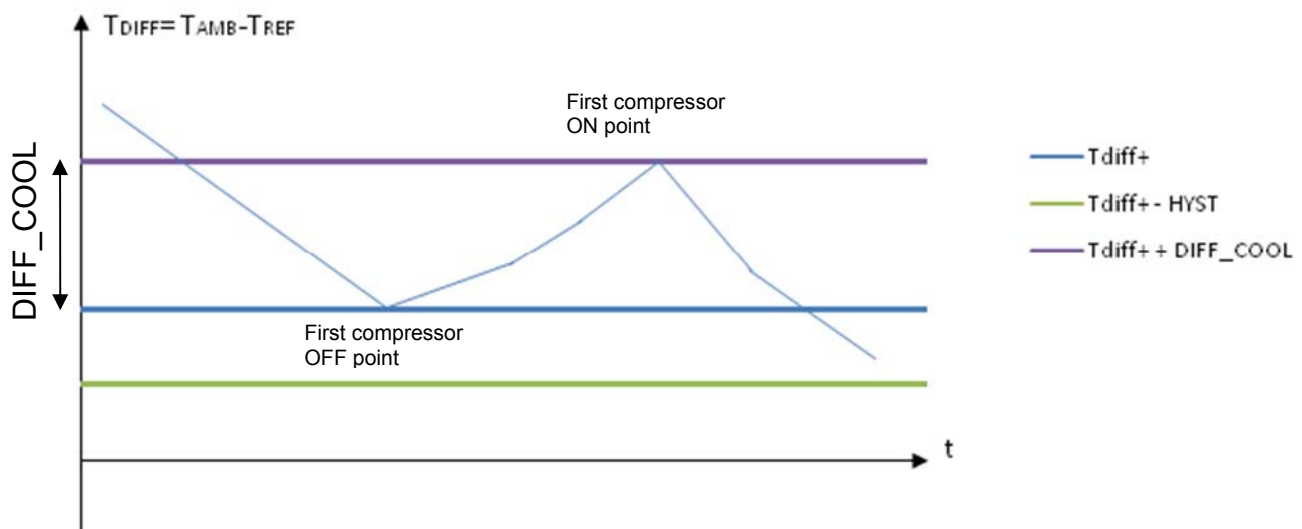

Fig. 12 First compressor regulation
- DIFF_COOL: wideness of the temperature difference band (straddling T_{DIFF+} , as shown in Fig. 12) in which no action is required. If the temperature difference reaches the value $T_{DIFF+} + DIFF_COOL$, the first compressor is started (half power functioning),